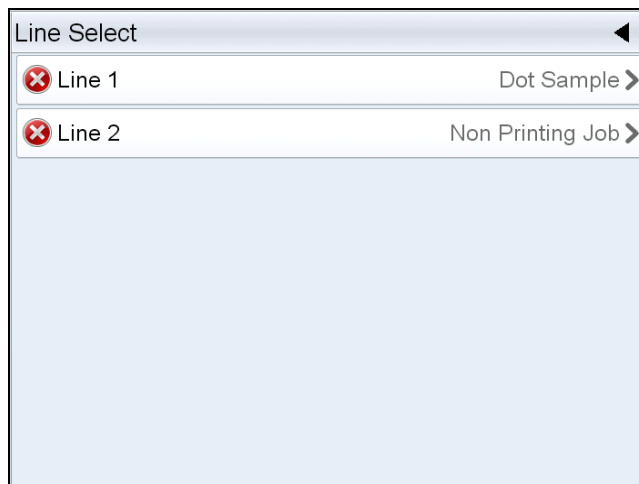

Figure 6-32: Line Select Page
- 4 *Line Select* page appears again (see Figure 6-32).